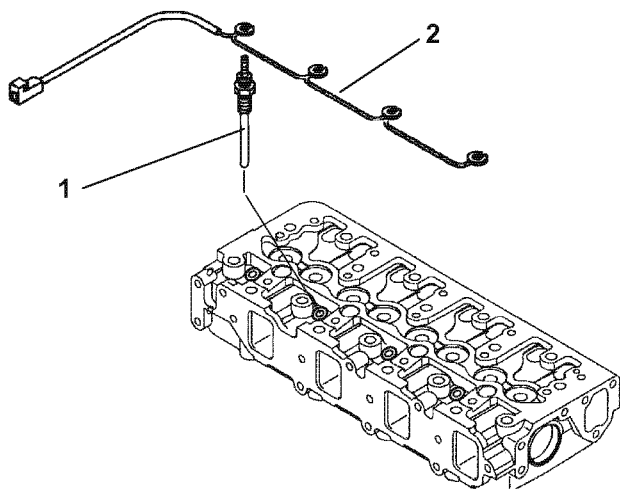

Figure 6-6
1. Remove the glow plug harness (2, **Figure 6-6**) from each glow plug (1, **Figure 6-6**).